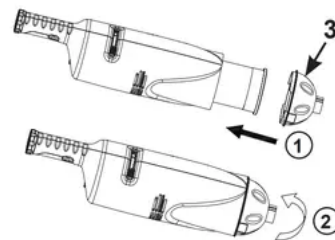

Fig 3
2. Install the vacuum body cover (3) onto the vacuum body (1). Turn the cover (3) clockwise to securely lock it to the vacuum body. See fig 3.